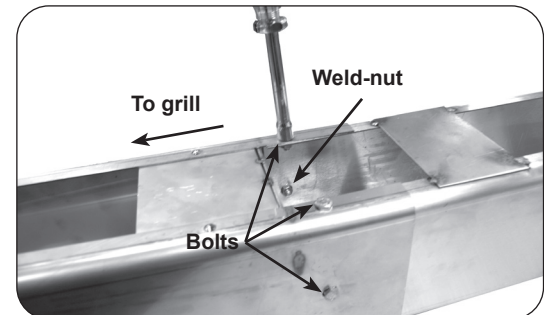

Fig. 24-2 Fasten extension to post
2. From outside the joined post and extension, insert one of the  $\frac{1}{4}$  X 20"-5/8 bolts (supplied) into each of the five (5) bolt holes and tighten each using a  $\frac{7}{16}$ " socket driver or wrench (see Fig. 24-2).